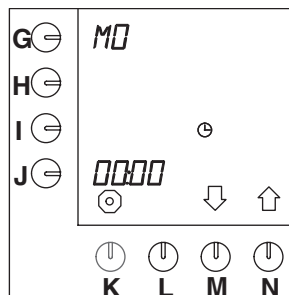

Fig. 31 Current day and time
- Press selection key (N.)↑ until fig.31 (Current day and time) appears on the display.
- The hours setting beside the programming key starts flashing (fig. 31 ).